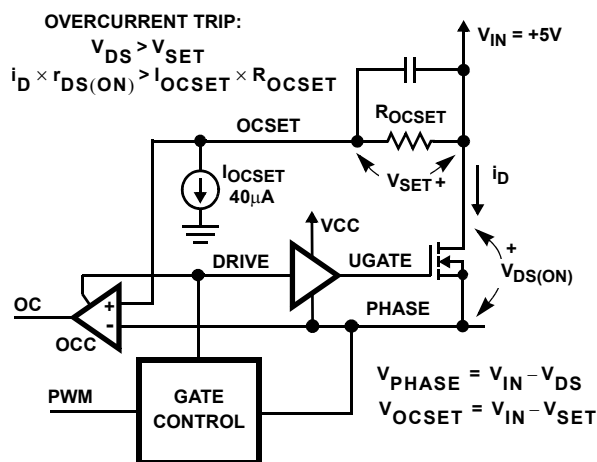

FIGURE 3. OVERCURRENT DETECTION
A resistor (ROCSET) programs the overcurrent trip level for the PWM converter. As shown in Figure 3, the internal 40μA current sink (IOCSET) develops a voltage across ROCSET (VSET) that is referenced to VIN. The DRIVE signal enables the overcurrent comparator (OCC). When the voltage across the upper MOSFET (VDS(ON)) exceeds VSET, the overcurrent comparator trips to set the overcurrent latch. Both VSET and VDS(ON) are referenced to VIN and a small capacitor across ROCSET helps VOCSET track the variations of VIN due to MOSFET switching. The overcurrent function will trip at a peak inductor current (IPEAK) determined by: